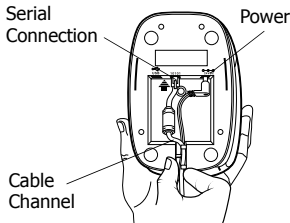

Figure 7
- 1 Plug the serial cable into the serial port on the bottom of the printer. See Figure 7.